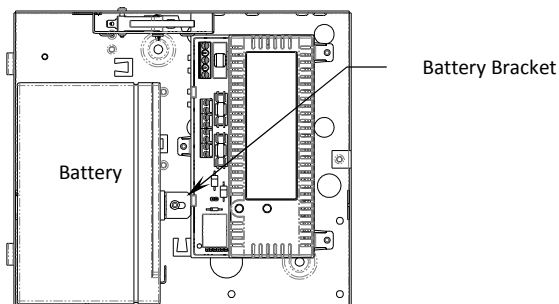

Fig 2 GEN2-08-A
- 12) Position the battery as shown in Figures 2 - 6 below, avoiding the cover earth connection spades and the cover retaining screws. Adjust battery bracket to hold battery in position.